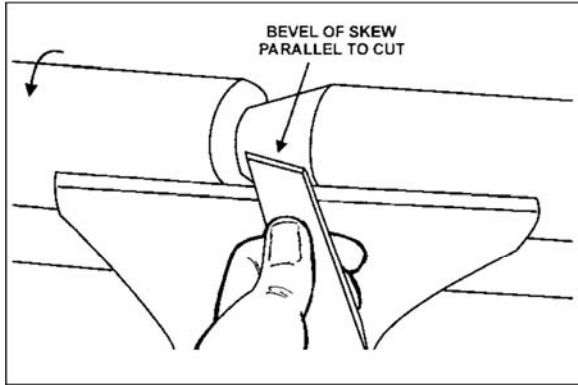

Figure 24
4. With the bevel parallel to the right side of the cut, raise the handle and push the tool in to the desired depth, as shown in Figure 24.